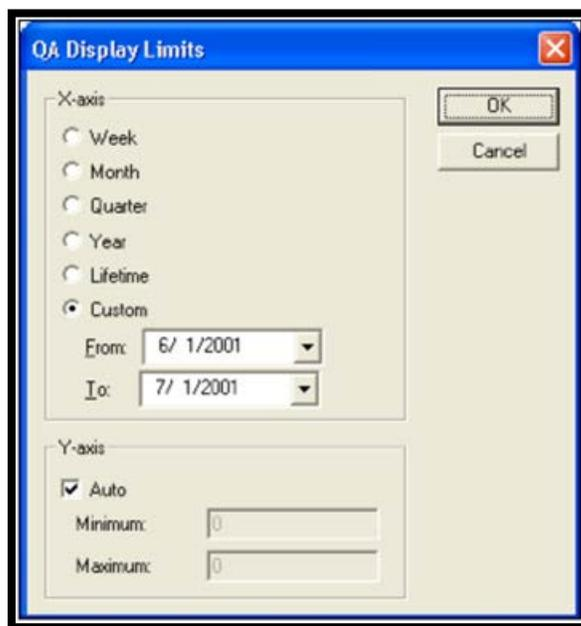

Figure 200. QA Display Limits - Custom
- 5) Next, choose the reporting interval for the QC chart. From the menu bar, click **QA/Display/Custom...**, and select a suitable time interval (e.g., **Weekly**, **Monthly**, etc.) from the submenu. Use the last entry on the submenu, **Custom...**. It allows the use of the date tool to tailor the start and end dates for a control chart. In this example, choose to display the Chemical Recoveries for ABC Soil Pu Analyses from *June 1, 2001 to July 1, 2001* (Figure 200).